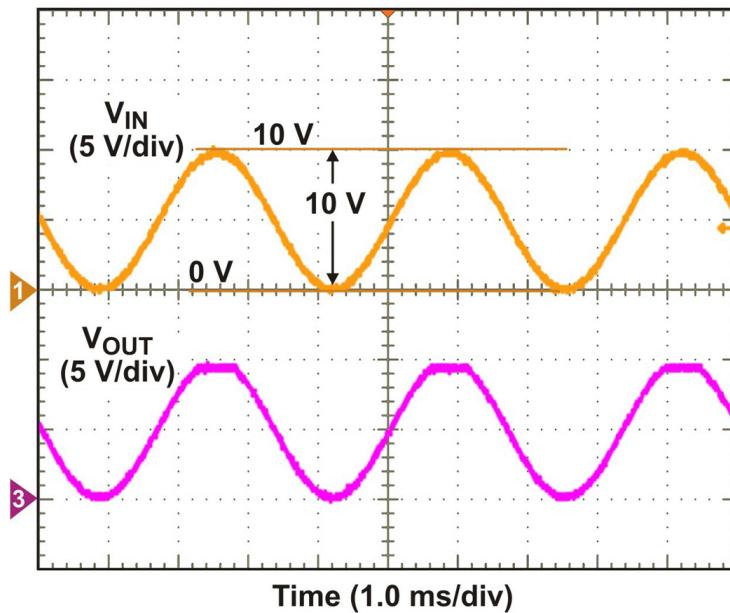

Figure 4: V_{OUT} of TLC2272 shows clipping when V_{IN} (Ch1) exceeds 9.2V.
To test the circuit, we apply a 300 Hz sine wave with DC offset of $V_{CC}/2 = 5\text{V}$ to the input. The AC amplitude is adjusted until a change is observed at V_{OUT} . As shown in **Figure 4**, when 10 Vp-p input is applied the V_{OUT} shows a clipped signal near the positive rail, but not near the negative rail. This undesirable behavior near the positive rail is what we should expect, if the input exceeds $V_{CC} - 0.8\text{V}$, or in this case 9.2V . For V_{IN} levels below 9.2V and down to 0V , V_{OUT} shows a proper waveform, as expected.
- Figure 4 caption: Replaced **TL971** with **TLC2272**